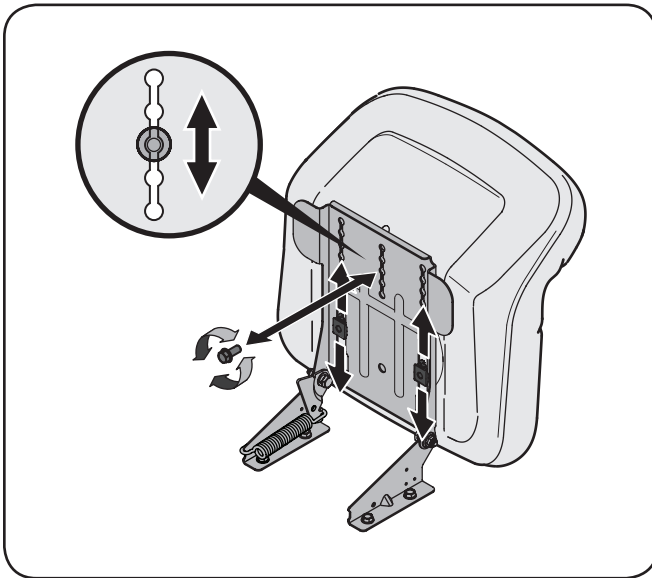

Figure 3-6
6. To adjust the position of the seat, remove the hex screw (or knob screw if applicable) on the bottom of the seat. Slide the seat forward or backward as desired. Re-install the hex screw (or knob screw if applicable). See Figure 3-6.